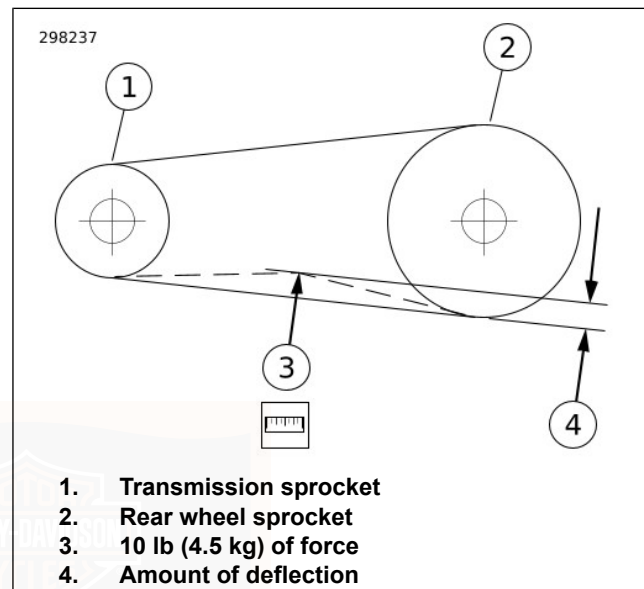

Figure 60. Checking Belt Deflection
- b. **All other models:** See Figure 60. Measure amount of deflection (4) while holding gauge steady.